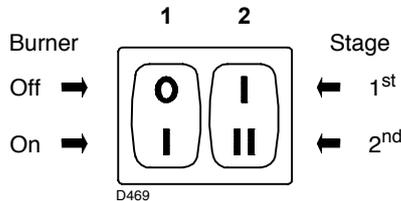

Fig. 24
- Start the burner by closing the control devices and with switch 1)(Fig. 24 on page 25) in the "ON" position. The pump must rotate in the direction of the arrow marked on the cover.
- The pump can be considered to be primed when the fuel starts coming out of the screw 3). Stop the burner: switch 1)(Fig. 24 on page 25) set to "OFF" and tighten the screw 3).
Set switch 1)(Fig. 24) to "ON".
Keep the burner operating at 1st stage by setting the switch 2) (Fig. 24 on page 25) to the 1st stage position. Opening of the air gate valve 6)(B, Fig. 25) must be adjusted in proportion to the selected nozzle: the index 1) (A, Fig. 25) must be aligned with the notch 2) (A, Fig. 25) specified in (Tab. K). This adjustment is achieved by turning the hex element 2) (B, Fig. 25):
Set switch 2) (Fig. 24 on page 25) to the 2nd stage position and adjust the air gate valve 6) (B, Fig. 25) by turning the hex element 4) (B, Fig. 25), after having loosened the ring nut 3)(B, Fig. 25).